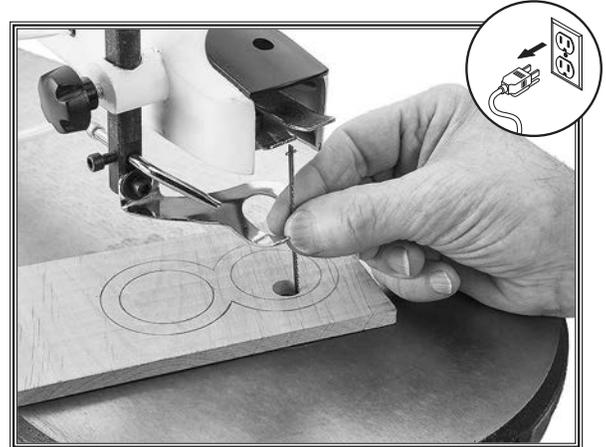

Figure 23. Example of installing blade for an inside cut.
4. Insert blade through previously drilled hole in workpiece (see Figure 23).